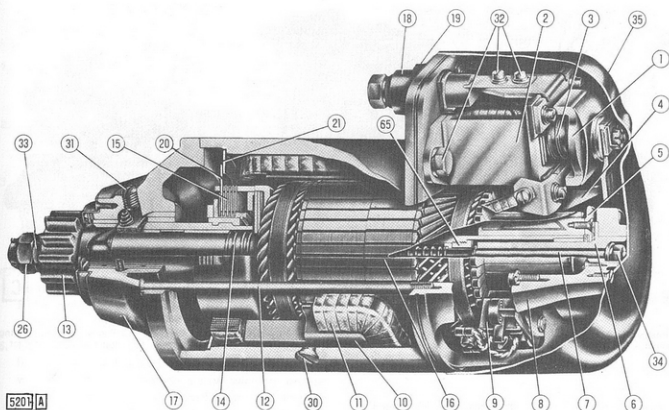

Fig. 254 - Cut-away View of Sliding Armature Starter
- An electro-magnetic switch (2, Fig. 254) with double-
- A rotating armature running in self-lubricating bushes. At first, owing to the pull exercised by the magnetic field generated by the auxiliary windings, the armature turns slowly, simultaneously moving end-wise to bring about frontal engagement of pinion teeth with ring gear teeth, release of stop lever (4, Fig. 254) and loading of the inner return spring. Subsequently, upon energising the main field winding, the armature imparts maximum torque to the pinion.
- A friction type clutch (15), consisting of splined nut screwed onto the pinion extension, which tends to unscrew when pinion rotation is opposed (cranking and starting phase), thereby causing the clutch friction plates to be compressed and establish a positive connection between armature and pinion.
Remove the starter from the tractor, remove protective cover (35, Fig. 254), separate yoke and end brackets,
When reassembling, refer to Figs. 254 and 255, and note the following:—